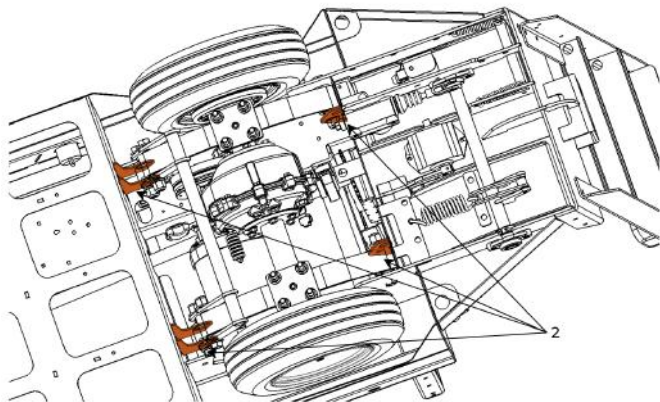

Figure 31. Rear Suspension Mounting Tabs.
- Rear suspension mounting tabs (2) (see Figure 31).